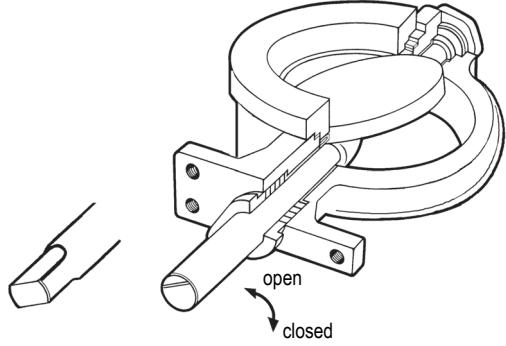

Fig. 12 Open and closed positions of the valve
- Check the adjustment in the closed position (see Section 6.4). The marking line parallel to the disc on the valve shaft head shows roughly the closed position of the disc (see Fig. 12). Pressure chocks can cause loosening of the pin connection between disc and shaft; consequently the shaft moves while the disc remains in place and this prevents full closing of the disc. If the reason for the leakage does not become apparent after doing the above, the valve must be disassembled
- Centre the seat ring (4) carefully into its groove and turn the disc to maintain light contact with the seat.
- Mount the clamp ring and tighten the screws (27) lightly.
- Tighten the screws (27) evenly. An unevenly tightened flange may damage the seat ring. The screw heads must be below the flange surface in lug type valves.
- Check the position between the seat ring and the disc. The valve closes clockwise (see Fig. 12).
- Press the shafts into the disc drillings. Align the pin holes. The shaft (11) position against the disc must be according to Fig. 12.
- Install the body seal (19) and the clamp ring (2). See details in Section 5.4.
- Check the contact line between the seat ring and the disc (see Fig. 12).